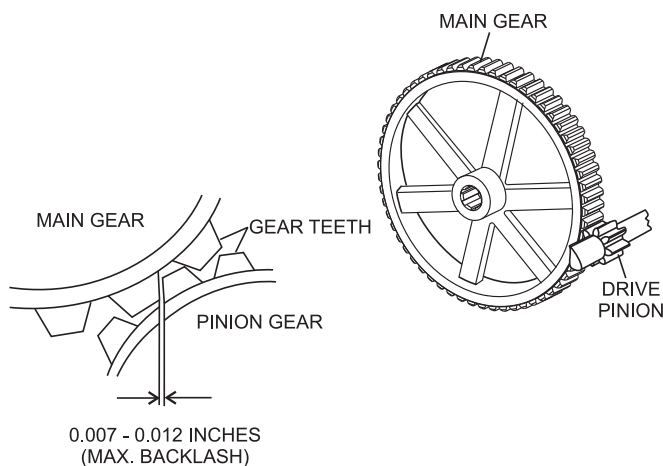

Figure 30. Drive Pinion and Main Gear (Backlash)
- Using your hand, slightly move (rock) the drive pulley back and forth to determine the amount of backlash. Insert feeler gauge between gears to determine backlash distance. Backlash should range between 0.007- 0.012 inches (Figure 30).